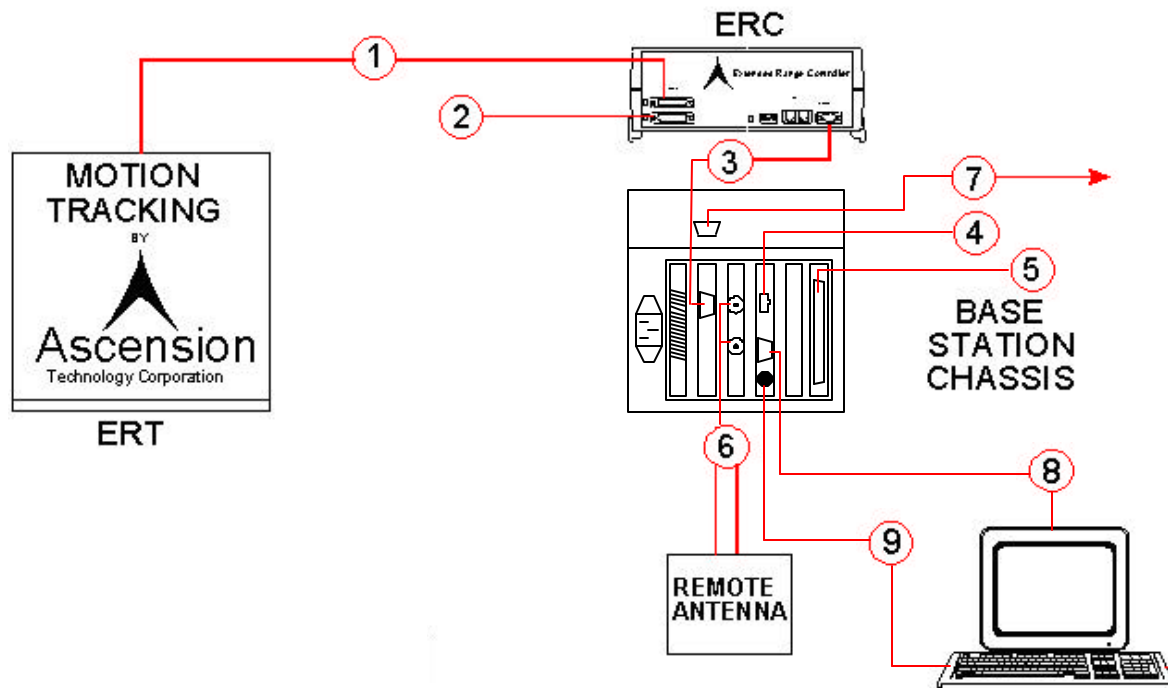

Figure 4. 3D Navigator Cabling
2. Following Figure 4, connect the following items:
100Base-T or AUI). Plug this cable into the appropriate Ethernet type connector shown in Figure 4 and supply an Ethernet terminator if the 3D Navigator base station is at the end of the network.
- g. The monitor and keyboard are not included with the system. If you are supplying your own monitor and/or keyboard, attach the video cable to the connector labeled 8 in figure 4. Attach the keyboard to the connector labeled 9 in figure 4.
- a. Connect a VGA color monitor and keyboard per 8 and 9 shown in Figure 4.